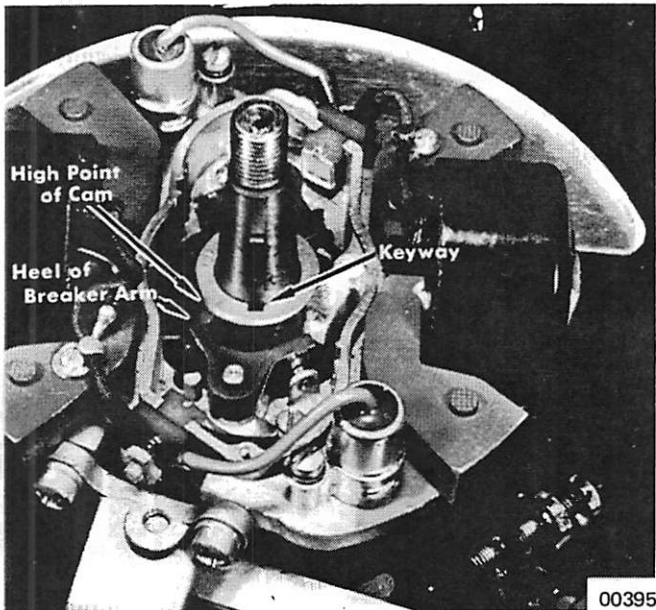

Figure 4. Location of High Point of Cam
*NOTE: Care must be taken when adjusting breaker point gap. High point of cam is located as shown in Figure 4 (not at the keyway).*